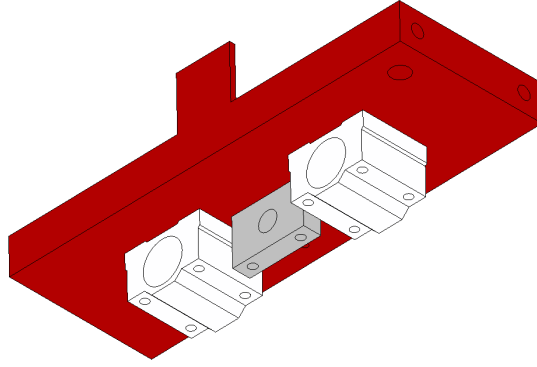

Figure 20: Assembly of the *universal mount* with two (2) SC12UU bearings and one (1) T8 nut housing.
2. Take the *universal mount* part. Identify the two (2) lateral holes in each side of the component. These holes are intended to be used by four (4) M5 inserts. Heat the inserts using a heat gun or a soldering iron and place them into the holes. Allow the inserts to cool down. Attach two (2) SC12UU bearings in the lower face of the *universal mount*. Use eight (8) M5 screws. Attach a T8 nut housing using two M4 screws with their corresponding nuts. Attach the T8 nut to the housing using four (4) M2 screws with their corresponding nuts. The result of the assembly is shown on figure 20.